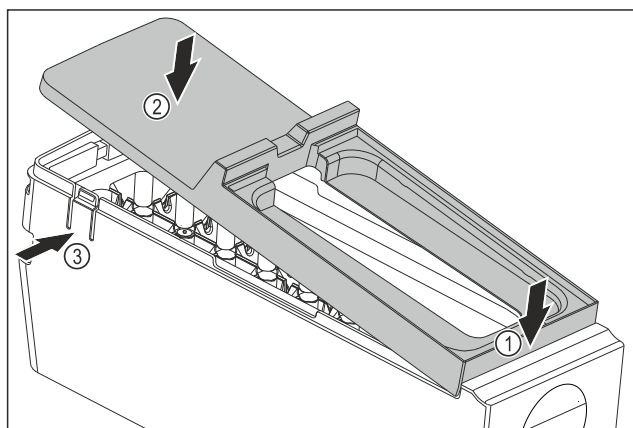

Fig. 81
- Installing the EasyTwist-Ice body cover: Place the cover on the front. Fig. 81 (1)
- Lower the cover at the rear. Fig. 81 (2)
- ▷ The cover locks into both tabs Fig. 81 (3) audibly.